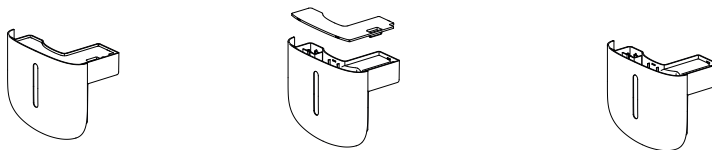

Fig. 8
3. Clean the water tank every few weeks. Remove it from the appliance and take the cover off (Fig. 8). Fill the tank with water with a detergent and wash it. Rinse and dry after washing. Wash the cover in water with a detergent.